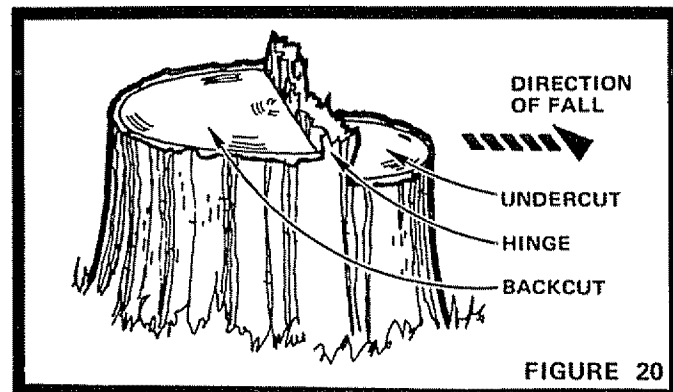

FIGURE 20
6. **STUDY THE STUMP.** Improve your felling technique by analyzing your work (Fig. 20).